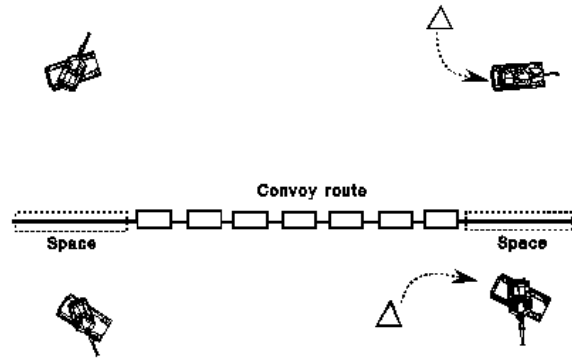
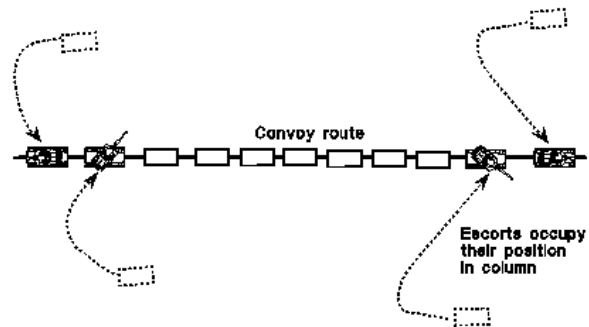

Figure 5-11B. Convoy moves back into column formation.
Figure 5-11C. Convoy escort vehicles rejoin column.
- o When the order is given to move out, convoy vehicles reestablish the movement formation, leaving space for escort vehicles (see Figure 5-11B). Once the convoy is in column, local security elements (if used) return to their vehicles, and the escort vehicles rejoin the column (refer to Figure 5-11C).